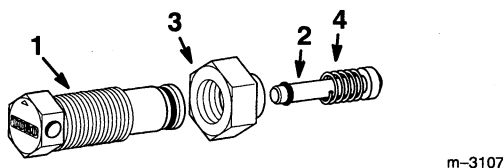

Figure 6
1. Assemble new Kallevig by-pass valves, if necessary, gently rotate and push spring tip into body and thread jam nut onto body with shoulder toward tip as shown (Fig. 6).